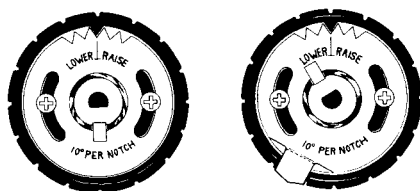

Figure 2
PULL KNOB OFF OF SHAFT. NOTE EXISTING SETTING ON BACK OF KNOB BEFORE MAKING ANY ADJUSTMENT. FIG. 2.
1. Hold knob firmly in one hand so pointer is at top (Figure 2).